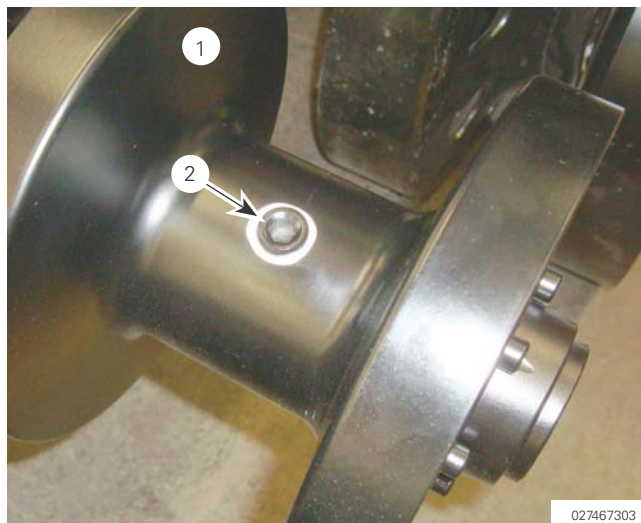

Figure 217
NOTE : Removing and positioning the filling plug (item 2 on Figure 217) at 6 o'clock will drain the oil faster.
- » Re-install the filling plug (item 2 on Figure 217) using a sealing compound.